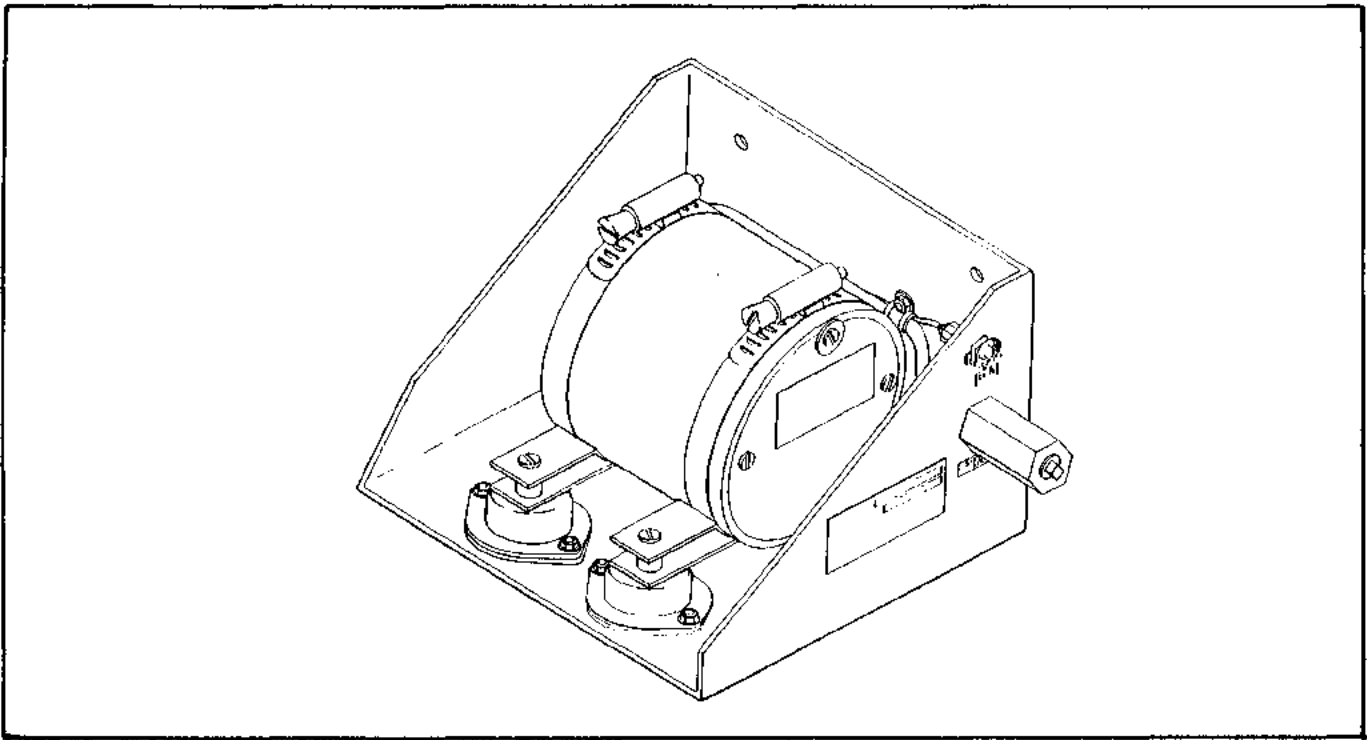

Figure 3-33. Altitude Hold Unit Installation (1C725)
**3-134. INSTALLATION OF ALTITUDE HOLD UNIT. (PA-44-180) (Refer to Figure 3-33.)**